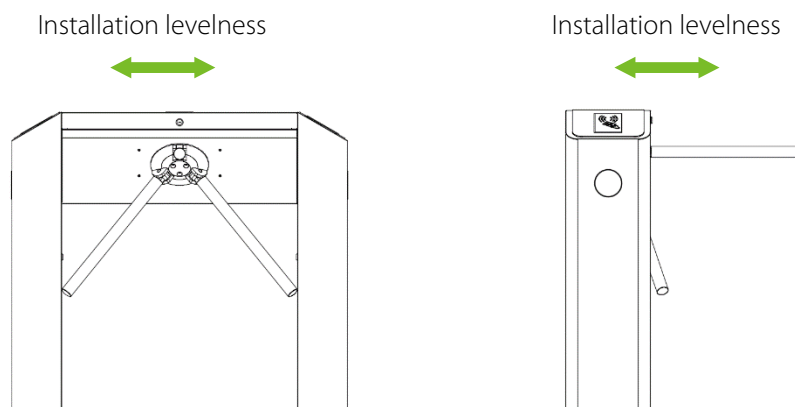

Figure 3-5
4. Install the turnstile on the mounting plate and tighten the screws. Apply screw securing glue before using and putting gaskets on the screws to adjust the direction of the turnstile. If the tripod turnstile is not levelled, please move gaskets to adjust, as shown in Figure 3-5.